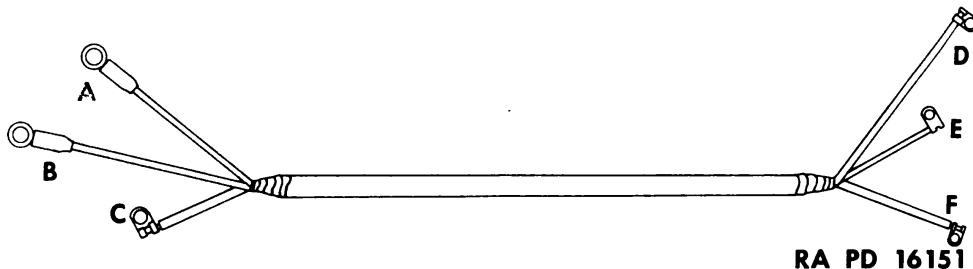

Figure 105—Generator to Regulator and Filter Wiring Harness
i. **Generator to Regulator and Filter Harness (Fig. 105).** This harness connects generator, at left side of engine, with regulator and filter at inside of left-hand engine room bulkhead.